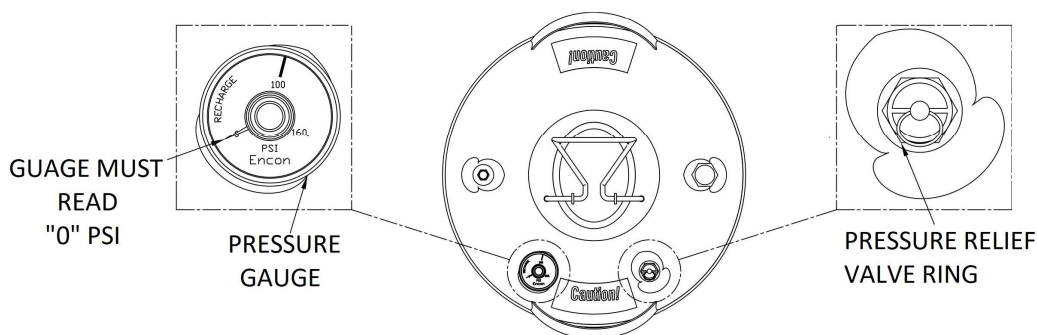

FIGURE 7
- A. **PRIOR TO OPENING VESSEL DEPRESSURIZE UNIT** by pulling the pressure relief valve ring to open valve. Hold open until pressure gauge indicator falls to "0" mark (Figure 7).